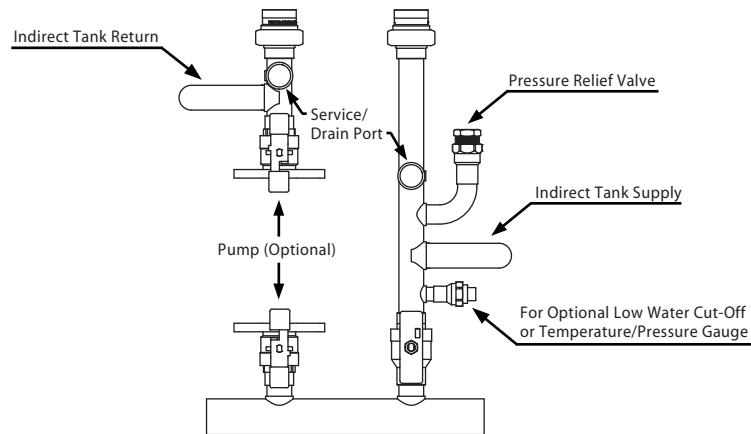

FIGURE 3: Available Ports on the Primary Manifold
- Additional accessories such as relief valves, indirect hot water tanks, or temperature/pressure gauges can be installed onto the additional ports below (see **FIGURE 3**). Stub outs are provided for the direct connection of an indirect water heater. Refer to the NHB Installation and Operation Manual for accessory piping and wiring requirements.